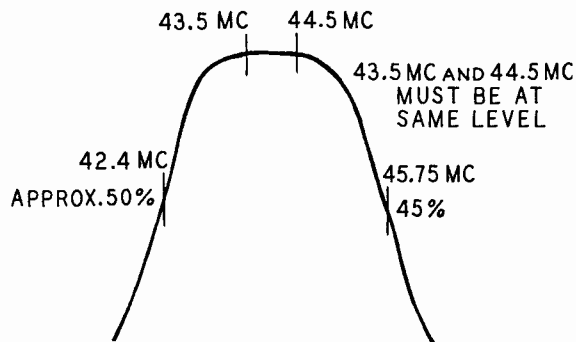
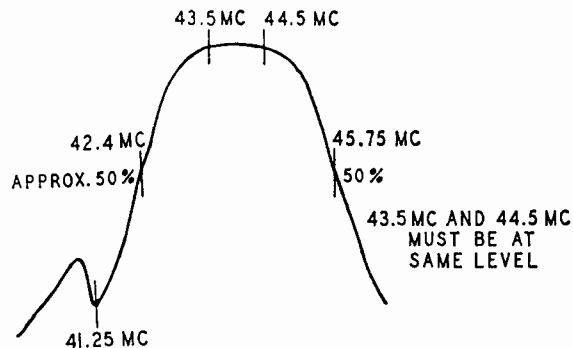

Fig. 4—Pix I-F Response From 1st Pix I-F Grid
Fig. 5—Overall Pix I-F Response Curve
43.3MC 45.75MC 42.75MC	Adjust T102 for maximum gain at 43.3MC. See Figure 4. Adjust T203 (bottom) and T201 to maintain 45.75MC and 42.75MC markers at 50% response. See Figure 5.
45.0MC 43.5MC 45.75MC 41.25MC 42.75MC 47.25MC	Recheck 47.25MC and 41.25MC Traps. Adjust T102 and T201 jointly to remove any tilt or peaks. If necessary adjust T203 (bottom) to maintain 45.75MC marker at 50% response. See Figure 5.
gain of 1st stage (4.0V. P-P on oscilloscope). Adjust 1st I-F transformer primary (top) and secondary (bottom) for maximum gain and symmetry with 45.75 mc marker. (See Figure 4.)
3. Set channel selector to Channel 13. Connect sweeper with very short leads through a 10 K mmf disc ceramic capacitor to mixer grid (I-F test point — see figure 6). Readjust sweep output for 4.0V P-P, adjust 41.25 mc trap (bottom of L-200) so that notch is at marker, adjust mixer plate coil (L-2 primary) and input grid coil (top of L-200) for maximum gain and symmetry with 45.75 mc marker at 50%. (Figure 5.)